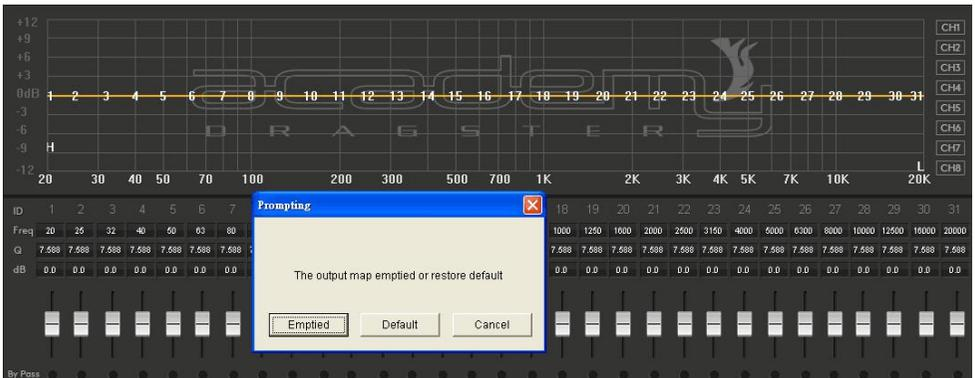

Figure 3.3.4
**The third step**, after the user has configured all of the output signal path, click on the right side of Figure 3.3.4 "Lock Output Configuration" to lock the configured output channel speaker sound field position. So that users and then in the bottom of each channel label, click on the type of drop-down menu box, type options will not pop up.
**Straight balanced:** the button shown in Figure 3.3.4, the current channel as long as there is an equalizer in the open state, this button will appear highlighted in green state, indicating that you can click this button to make all the equalizer
**Reset balanced:** the button shown in Figure 3.3.4, click this button to make all current channel equalizer parameters return to the initial state: uniform distribution of frequency, Q value is 1.2, a gain of 0dB.